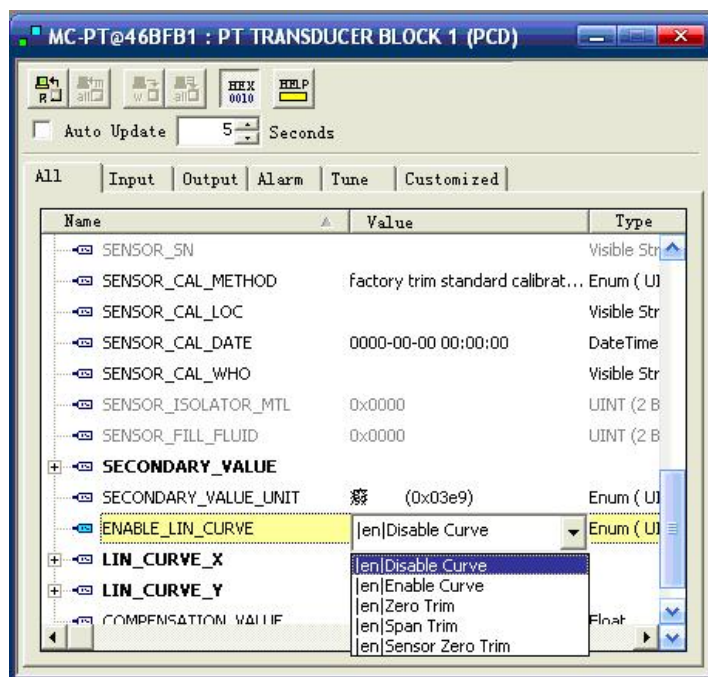

Figure 6-3 ENABLE\_LIN\_CURVE configuration
**Primary variable zero configuration** Add operating pressure value at zero point to transmitter, set as “Sensor Zero Trim” (shown as Figure 6.3) via transducer block calibration parameter ENABLE\_LIN\_CURVE, to finish the sensor zero calibration. Read the PRIMARY\_VALUE of transducer block, it would be zero.